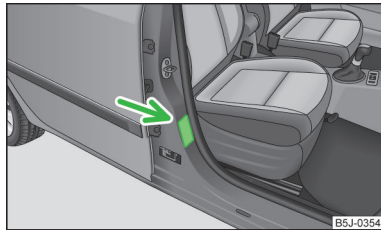

Fig. 13
- On the B-column on the front passenger side » Fig. 13. The sticker is visible upon opening the front passenger door.